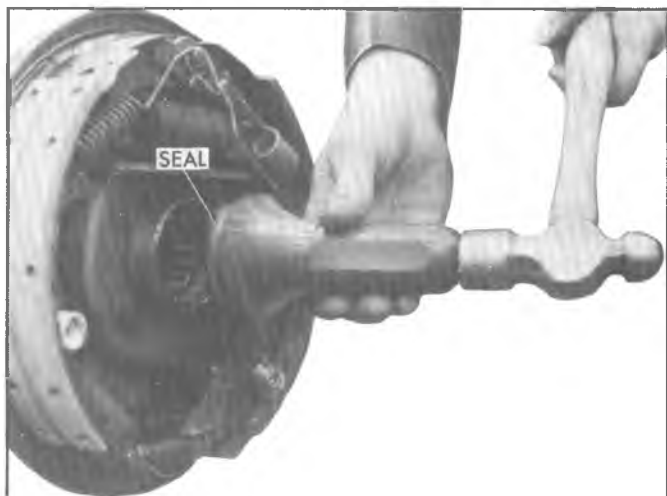

Fig. 55—Seal Installation
6. To install oil seal, place seal on J-21128 and drive into bore until tool bottoms against end of tube. See figure 55. This tool installs the seal flush with the end of the tube.